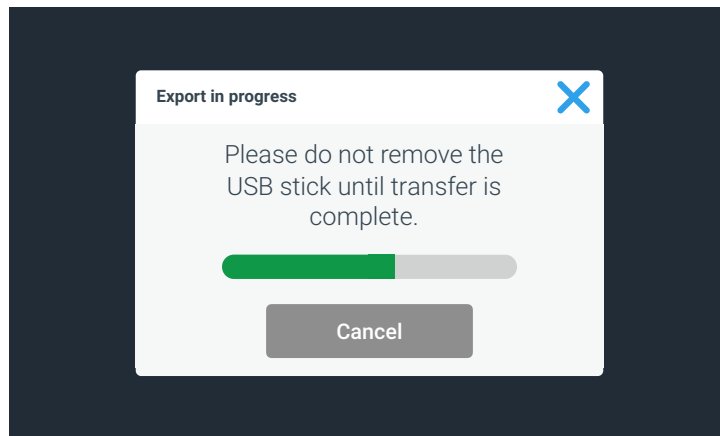

Figure 95 “Export in progress” Screen
- If you have inserted a USB drive that is not writable or readable, the pop-up window shown in Figure 95 appears, stating the drive is not readable and asking you to insert a different USB drive.
If you have inserted a valid USB drive, the export will start immediately. The pop-up window shown in Figure 95 appears, cautioning you not to remove the USB drive until the transfer is complete.